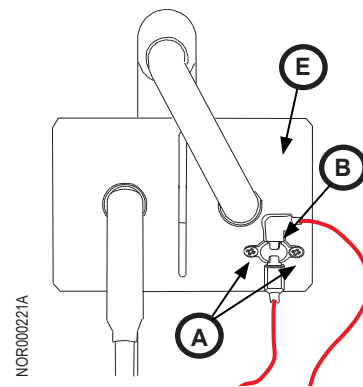

Fig. 6 - Fan Thermostat
1. Remove fan thermostat screws (Fig. 6, A) (2x) and fan thermostat (Fig. 6, B). Lay all aside.